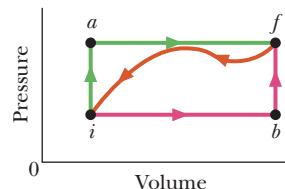

Figure 18-40 Problem 47.
**•47 SSM WWW** When a system is taken from state  $i$  to state  $f$  along path  $iaf$  in Fig. 18-40,  $Q = 50 \text{ cal}$  and  $W = 20 \text{ cal}$ . Along path  $ibf$ ,  $Q = 36 \text{ cal}$ . (a) What is  $W$  along path  $ibf$ ? (b) If  $W = -13 \text{ cal}$  for the return path  $fi$ , what is  $Q$  for this path? (c) If  $E_{\text{int},i} = 10 \text{ cal}$ , what is  $E_{\text{int},f}$ ? If  $E_{\text{int},b} = 22 \text{ cal}$ , what is  $Q$  for (d) path  $ib$  and (e) path  $bf$ ?